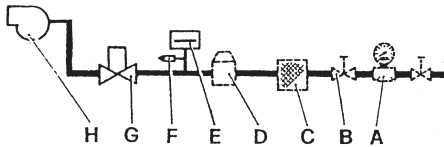

Fig. 5
- the nozzle (28) fitted on the burner is of suitable capacity for the boiler
- the air has been bled from the gas pipe through the pressure outlet connector (F) (Fig. 5)
- Close the gas shutoff cock (B) (Fig. 5 Page 3).
- Bleed the gas from the pipe by loosening the pressure outlet connector (F) (Fig. 5)
- Press the lock reset button (17).
- Open the gas shutoff cock (bleed the air from the pressure outlet connector) (F) (Fig. 5).